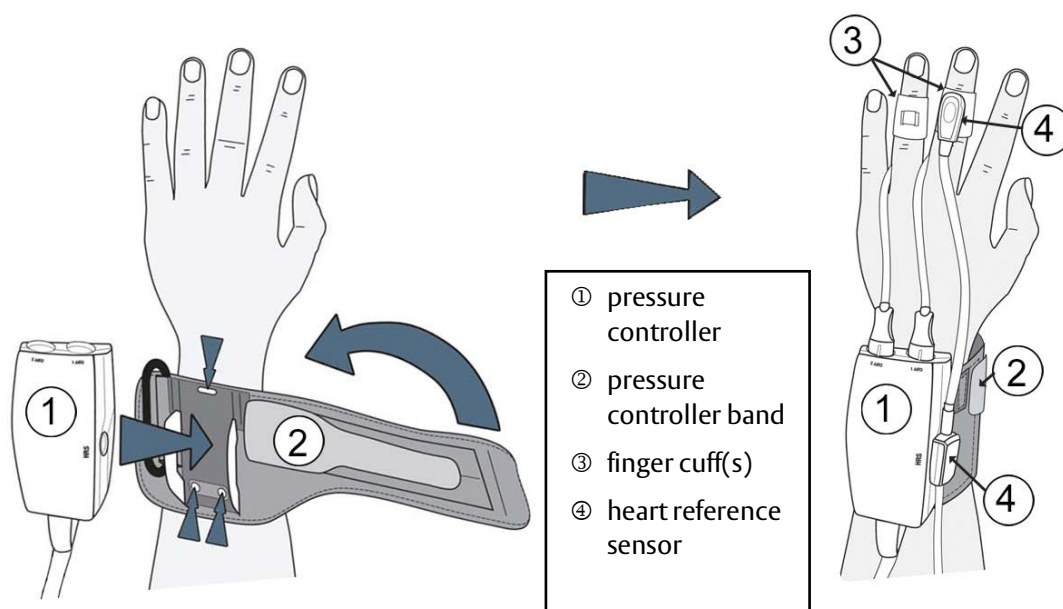

Figure 10-2 Wrist applied pressure controller application
The pressure controller kit (PC2K or HEMPC2K) consists of a pressure controller (PC2 or HEMPC) and accompanying band (PC2B). A pressure controller cover is available as an accessory. The pressure controller cover secures the heart reference sensor into the pressure controller. See *Pressure Controller Cover* on page 379. Device performance, including functional characteristics, have been verified in a comprehensive series of testing to support the safety and performance of the device for its intended use when used in accordance with the established Instructions for Use. The pressure controller is worn on the patient's wrist and connects to the HemoSphere Alta™ Advanced Monitor, HRS and finger cuff(s). See figure 10-2.
- 1 Wrap the pressure controller band around the patient's wrist. The non dominant hand is preferred for monitoring in awake patients. (figure 10-2, left)